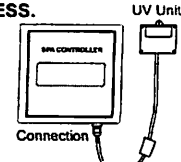

FIGURE 2
- Turn the breaker to the spa OFF. We recommend that you drain your spa. Disconnect the **CLEARRAY** System from the controller, Figure 2.
- Once the UV lamp has cooled off remove the **CLEARRAY** System enclosure cover (10) and gasket (9) by removing the four screws (11).